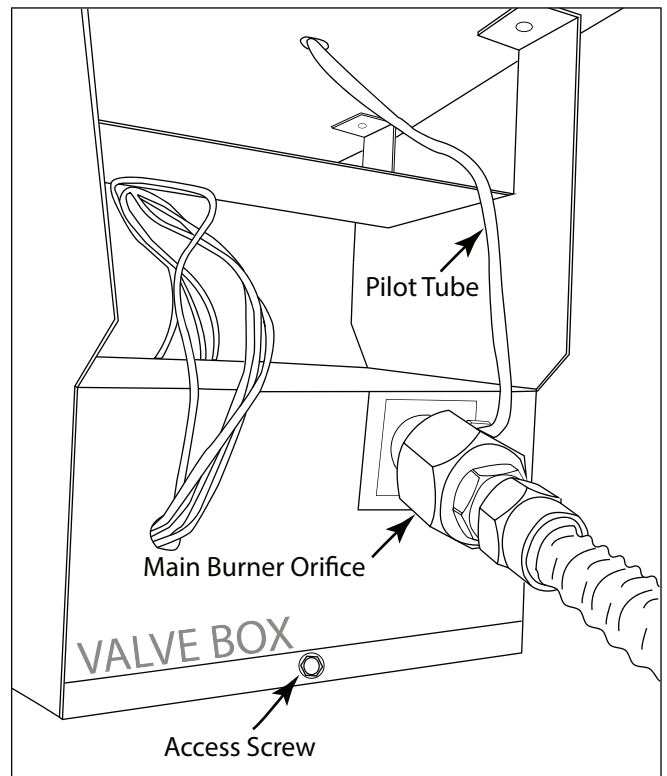

Fig. 25 Removing access screw from valve box.
1. Remove the access screw from the valve box (See Fig. 25). The cover will slide down exposing the gas valve and control module.